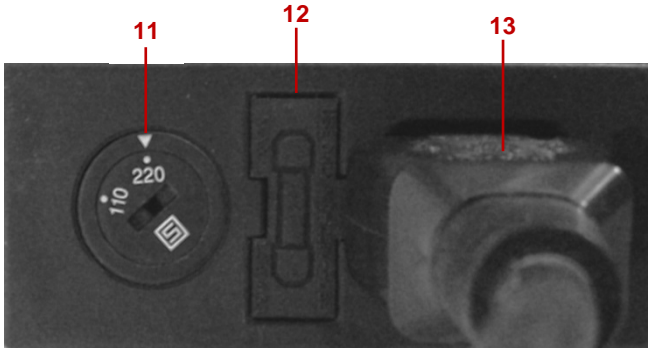

Figure 7.3: Back Panel
1. Verify the voltage on the specification plate located on the back of Laboratory Sifter. Ensure the voltage selector switch (Figure 7.3, Item 11) is properly set to the appropriate line voltage. The voltage selector switch shown below can be rotated using a flat head screwdriver to the appropriate line voltage.
2. Connect the power cable supplied with the tester into the power plug receptacle located on the back of the Laboratory Sifter (Figure 7.3, Item 13).